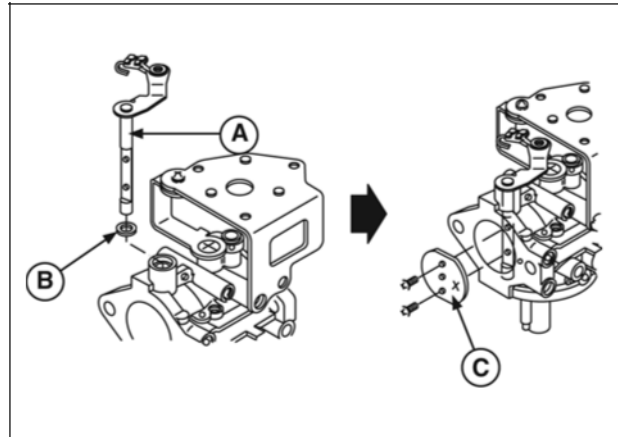

Figure 40
1. Install throttle shaft (A, Figure 40) and new seal (B). Install throttle plate and screws (C).